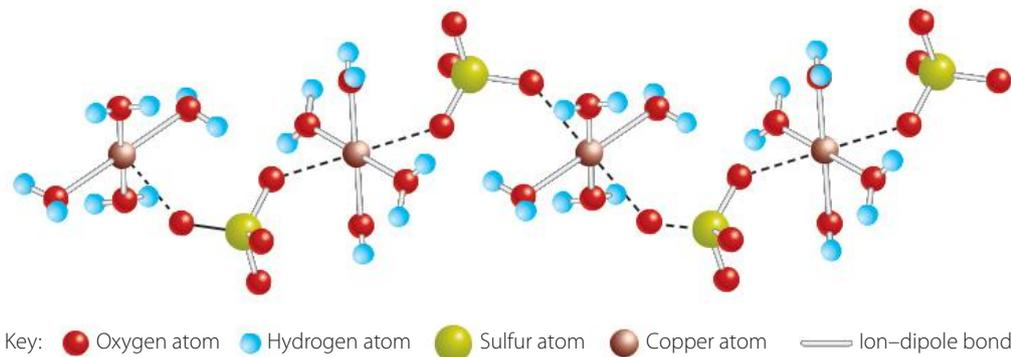

FIGURE 4.5 The crystals of copper(II) sulfate consist of an octahedral arrangement of water molecules and sulfate ions around the central copper ion.
copper(II) sulfate. The bonds between the ions and water are called ion–dipole bonds; the ion and the dipole in the water molecules form a weak bond. Water or other molecules that form dipole bonds to a metal atom are referred to as **ligands**. The water ligands take the positions around the central ion and will follow the **VSEPR theory**. $\text{CuSO}_4 \cdot 5\text{H}_2\text{O}$ is an octahedral shape. The central ion is a cation, so the negative oxygen of water points towards the Cu^{2+} , as shown in Figure 4.5.